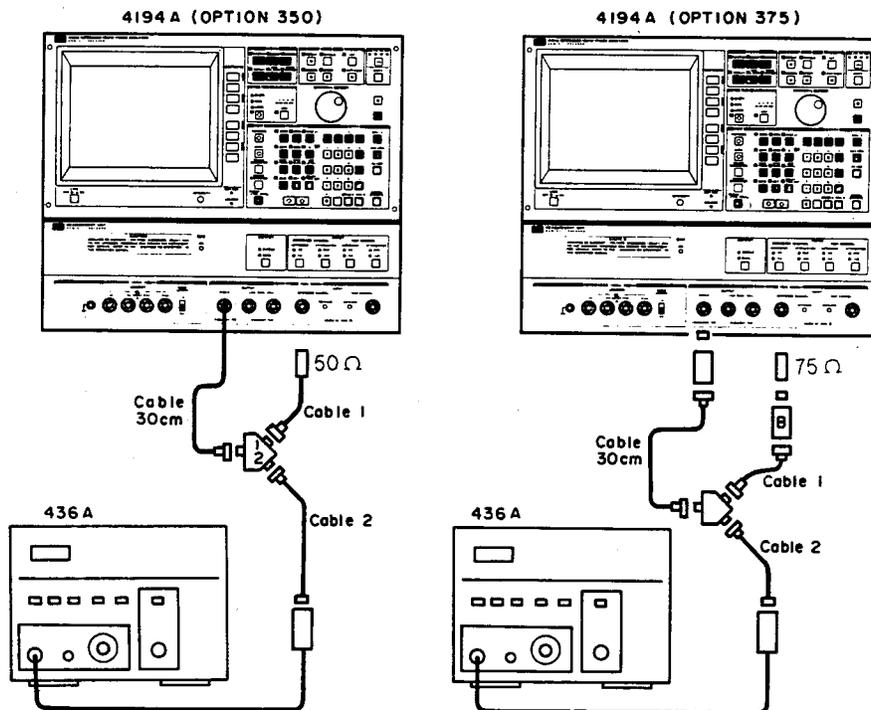

Figure 4-18. Amplitude Measurement Accuracy Test Setup 4.
1. Connect the appropriate (50Ω or 75Ω) feedthrough termination to the REFERENCE CHANNEL as shown in Figure 4-18.